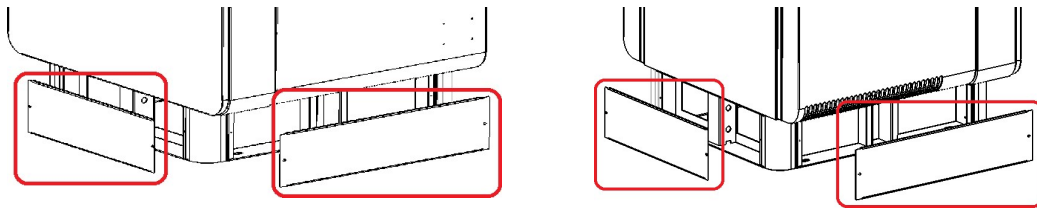

Figure 5 Schematic diagram of sealing plates
(1) Using a Philips screwdriver, first remove the front, rear and side sealing plates of the base, as shown in Figure 5.